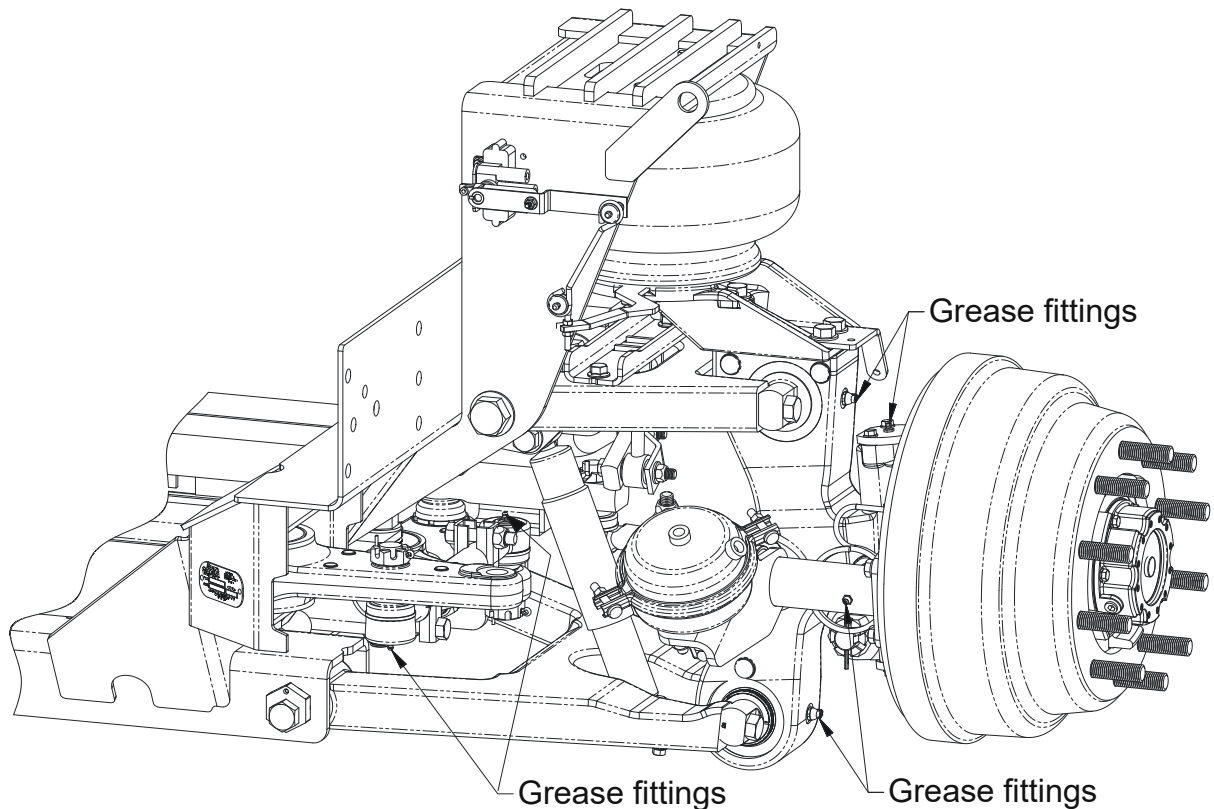

Figure 4 – Location of Lubrication Fittings
2. Apply lubricant to grease fitting until new lubricant discharges from the dust boot (**Figure 4**).
2. Apply lubricant to the S-cam tube until new lubricant discharges from the S-camshaft bushing seal next to the automatic slack adjuster. **(Figure 4)**.
3. Apply lubricant to the automatic slack adjuster until new lubricant discharges from the cone clutch adjacent the adjusting hex nut. **(Figure 4)**.